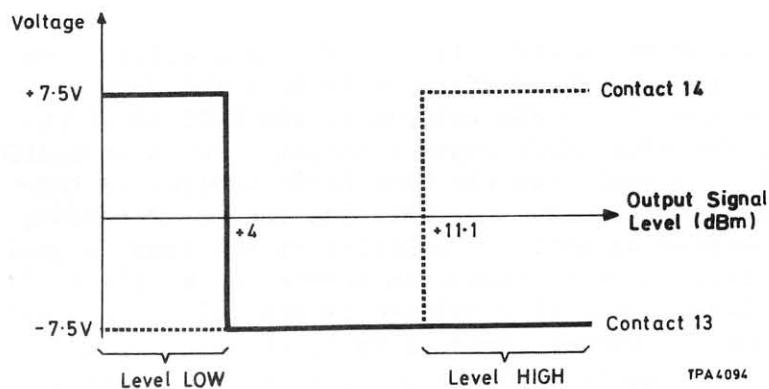

Fig. 10 ALC range limit signals - AA3
35. The level in or out of range condition is sensed by the window detector formed by comparators IC2 and IC3. The output signal is detected by negative peak detector D3 and the d.c. applied to the non-inverting input of IC2 and the inverting input of IC3. Reference levels for the comparators are preset by R31 and R30 which form part of a potential divider chain. Diodes D6 and D7 provide temperature compensation. Comparator outputs to contacts 13 and 14 are scanned by the microprocessor and those to contacts 7 and 1 control the operation of the EXT LEVELLING warning lamps. When the output level is within the range +4 dBm to +11.1 dBm the outputs from the comparators are all low (see Fig. 10) and when EXT LEVELLING is selected, the microprocessor causes the green lamp to flash to indicate that the level is within limits. When the range limits are exceeded by external levelling either the HIGH or the LOW warning lamp illuminates and the microprocessor informed. For a high out of range level, for example, D8 is forward biased to illuminate the HIGH EXT LEVELLING lamp. Contact 14 is also taken high causing the microprocessor to extinguish the green in-range lamp and, if under remote control, the controller is informed of the fault condition via the GPIB interface. For a low out of range level contacts 7 and 13 are taken high to inform the microprocessor and to illuminate the LOW lamp. With contact 7 directly connected to the LOW lamp this also switches on whenever OUTPUT OFF is selected. To prevent these lamps from flashing whenever AUTO MUTE ENABLE is selected, C23 is used to slow the reaction of the comparators to changes in signal level.